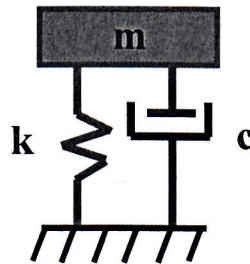

Figure 1
[1] Consider a damped dynamical system (as shown in Figure 1) that has the stiffness  $15 \frac{k}{ft}$  and mass  $1.15 \frac{k-s^2}{ft}$  is subjected to initial conditions  $t = 0, \dot{x}_0 = 5.0 \frac{ft}{s}, x_0 = 0.5 ft$ .
1. a) What are the effects of soil condition on isolated structure? (3)
- b) What are the specifications for concrete and steel reinforcement for earthquake resistant design? (5)
- c) What is seismic base isolation system? What are the characteristics of a well-designed seismic base isolation system? (6)
- d) Write short notes on: (i) Rubber bearing, (ii) Friction pendulum system. (6)
2. a) The exterior joint shown in the **Figure 1** is a part of a reinforced concrete frame designed to resist earthquake loads. A 6 in slab, not shown, is reinforced with No. 5 bars spaced 10 in center-to-center at the same level as the flexural steel in the beams. The member section dimensions and reinforcement are as shown. The frame storey height is 12 ft. Material strengths are  $f'_c = 4000$  psi and  $f_y = 60000$  psi. The maximum factored axial load on the upper column framing into the joint is 2000 kips, and the maximum factored axial load on the lower column is 3000 kips. Check if the joint satisfies weak beam strong column condition as per ACI 318-08. (15)
- b) Explain how confinement affects the shear capacity in the joint? (5)
3. a) Check the joint shown in **Figure 1** whether it satisfies the shear requirement or not. (12)
- b) Write down the size and location of opening in masonry wall according to the ERD guidelines? Show in neat sketches. (8)
4. a) What is FRP? What are the benefits of FRP over steel in retrofitting works? (5)
- b) Determine the number layers of carbon fiber wrap required to strengthen a circular column of diameter 500 mm with unsupported length of 3000 mm. (15)